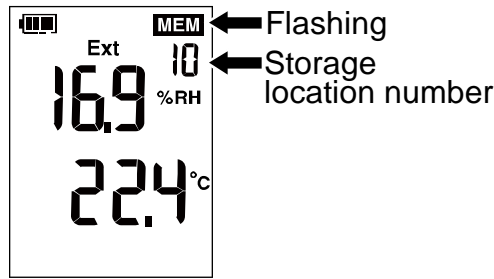

Figure 8. Recall Historical Data
2. Release  when **MEM** flashes in the upper right corner of the screen, as shown in Figure 8.